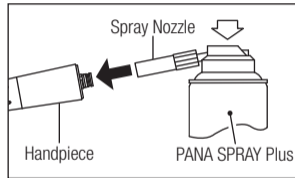
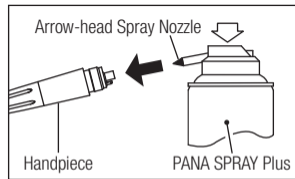

Fig. 10
Fig. 11
- 3) Insert the Spray Nozzle in rear of the handpiece. Hold the handpiece and spray for approximately 2-3 seconds. Apply lubricant until it expells from the handpiece head for at least 2 seconds. (Fig. 10)
- 2) Mount the arrow-head spray nozzle tip into the spray can port. (Fig. 11)
- 3) Lubricate handpiece by using NSK PANA SPRAY Plus (Fig. 10, Fig. 11) or NSK automatic handpiece cleaning and lubrication system.